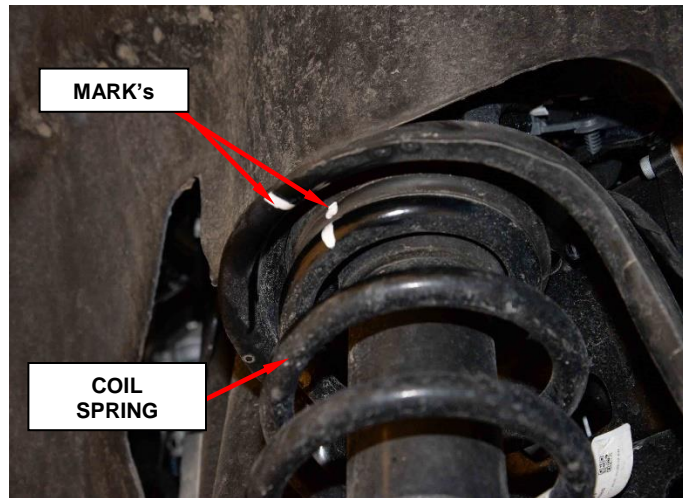

Figure 17 – Coil Spring Mark
27. Place a mark on the upper and lower coil spring Isolator, coil and coil seat, for reinstalling reference (Figure 17).
10. Install and align the coil springs to the marked upper coil pad (Figure 17).